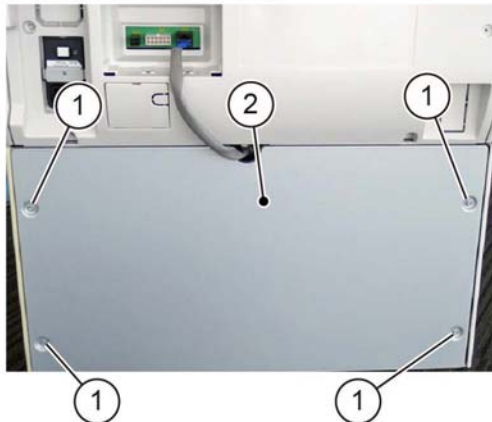

Figure 2 Rear cover removal
2. Remove the 1TM PWB, **Figure 2**:
- a. Disconnect five connectors (1).
- b. Remove four screws (2).
- c. Remove the 1TM PWB (3).